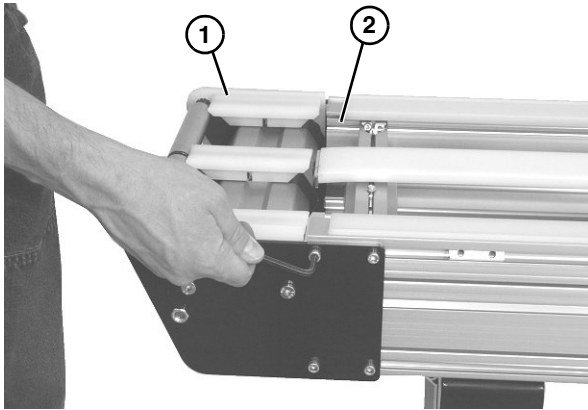

Figure 52
When reinstalling the idler spindle tail assembly, the idler terminal assembly (**Figure 52, item 1**) should mate flush with the conveyor frame (**Figure 52, item 2**).